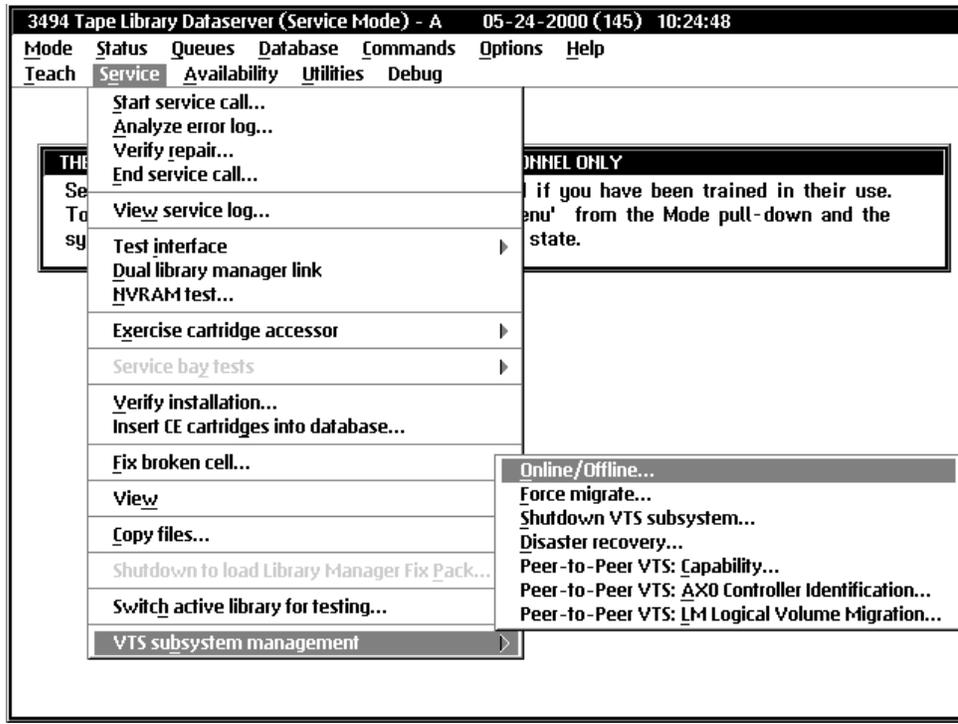
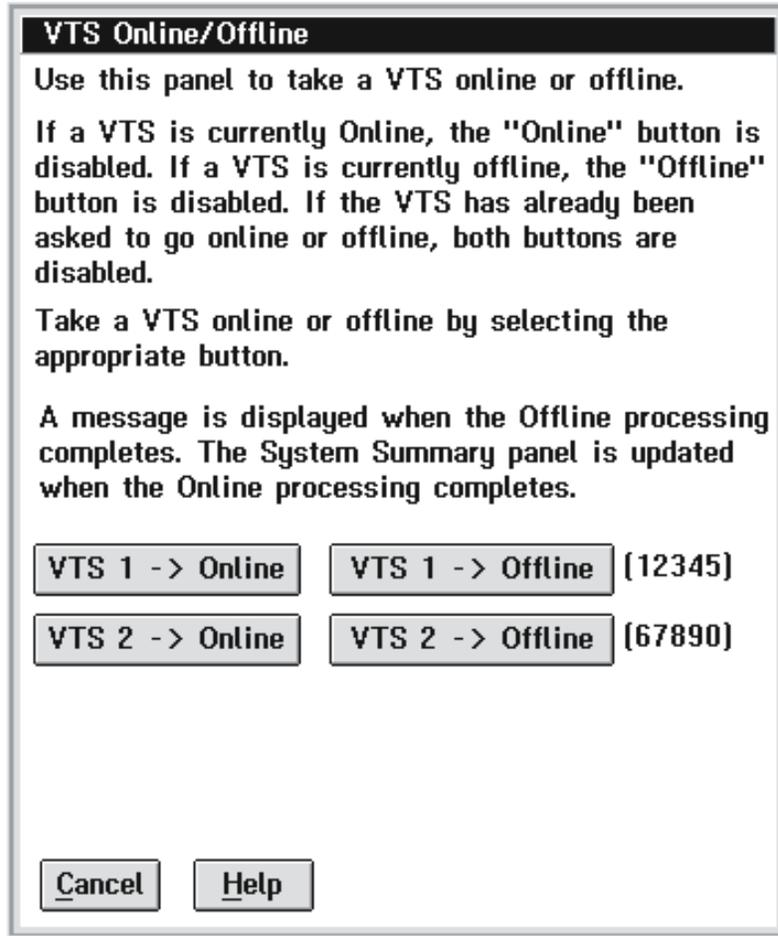

Figure 118. Service Window
Figure 119. VTS Online/Offline Window
3. In the Service window (Figure 118 on page 195), select the **VTS subsystem management** option, then select the **Online/Offline...** option to display the VTS Online/Offline window (Figure 119 on page 196).